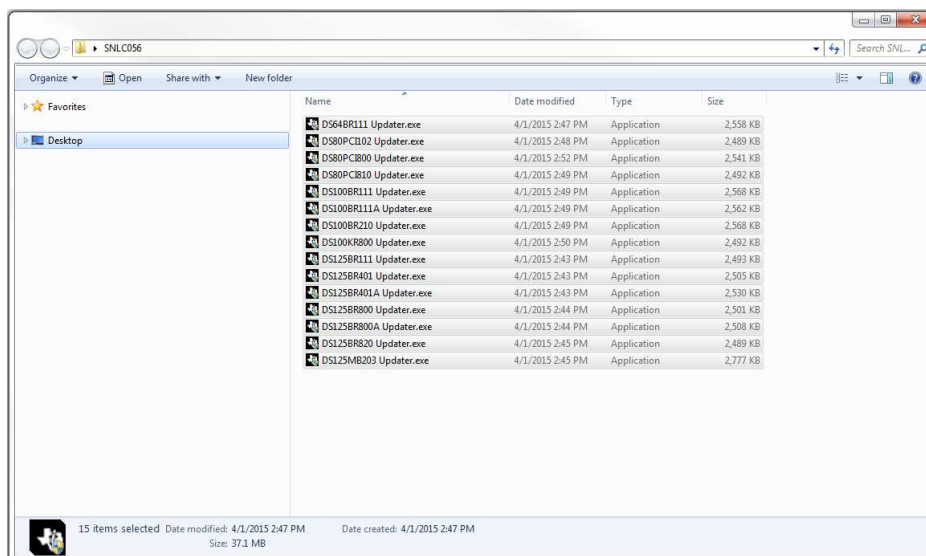

Figure 20. Repeater Profiles .zip Folder Contents
2. Navigate to the SigCon Architect Tools Folder page in TI.com and download the zip folder containing the collection of repeater profiles. A view of the zip folder contents can be seen in Figure 20.